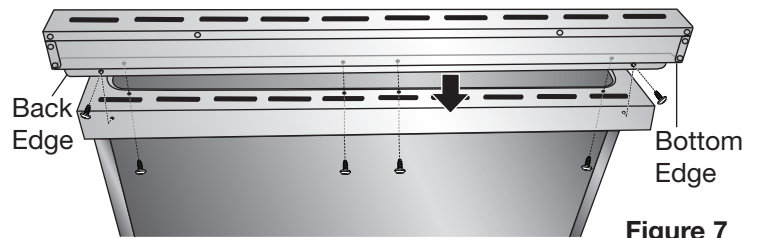

Figure 7
**6** (Optional Step) Align backsplash holes with holes at the edge of the stovetop, which extends past the back of the oven. (See Figure 7)